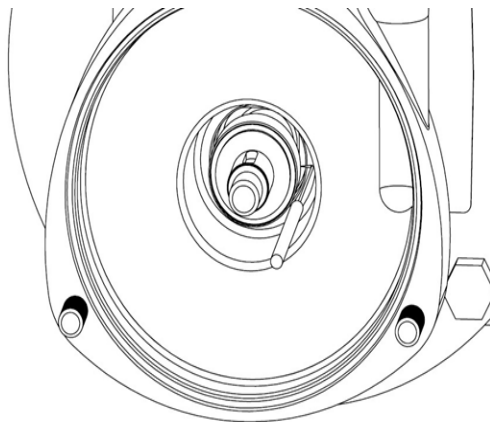

Figure 4
6. Pull out the seal driver. You may have to use a pick to separate the rotating seal from the stationary seal, Figure 4.